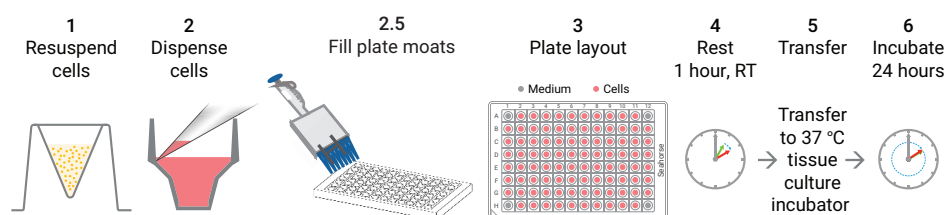

Figure 1. Agilent Seahorse XF tissue culture microplate cell seeding procedure workflow.
2. Seed 80 μL of cell suspension per well (cells/well), as shown in Figure 1. Do not seed cells in background correction wells (A1, A12, H1, H12).